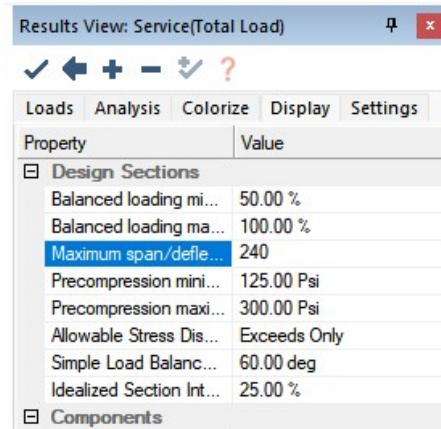

Figure 4.2-7 – Maximum span/deflection ratio setting
- Set the *Maximum Span/Deflection Ratio. L/* value to **240** (Figure 4.2.7).